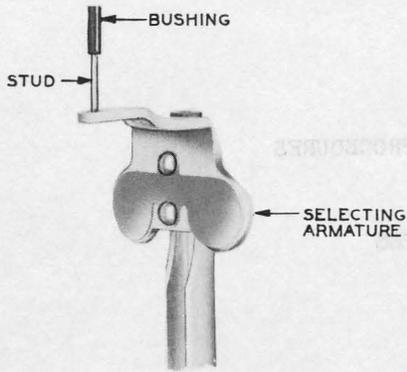
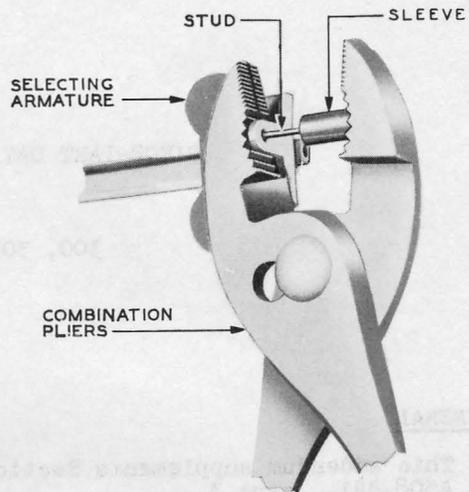

Fig. 10 - Bushing and Armature
Fig. 11 - Method of Installing Bushing
- (b) Figs. 10 and 11 - added
3.23 Selecting Armature Bushing: Remove the selecting bar as covered in 3.06. Remove the bushing from the stud by crushing it with the long-nose pliers. Round off the crimped end of the stud with the long-nose pliers to permit pressing on the replacing bushing. Place a new bushing in position on the end of the stud as shown in Fig. 10. Place the P-10A200 sleeve over the bushing. Force the bushing on the stud and against the armature with the combination pliers, as shown in Fig. 11, being careful not to break the bushing. After the bushing is in place, remove the P-10A200 sleeve and flatten the tip of the stud with the long-nose pliers. Remount the selecting bar as covered in 3.06.